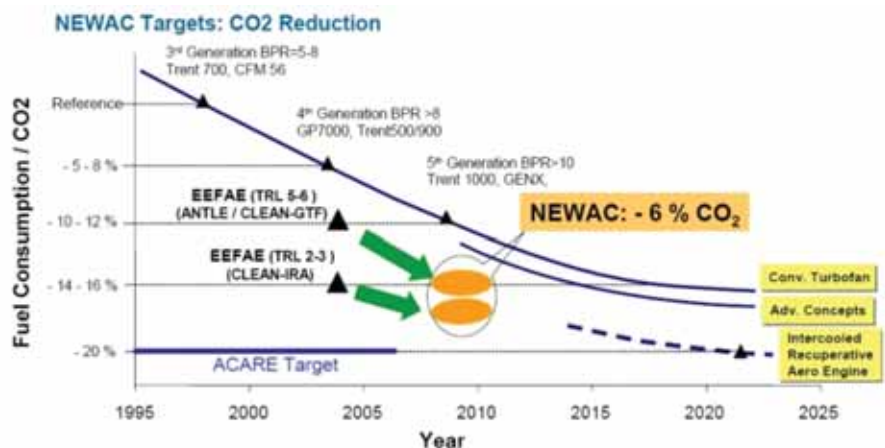

Figure 1: Fuel consumption / CO_2 reduction for different core concepts: Newac vs. state of the art
- 20% reduction in CO₂ emissions per passenger-kilometre whilst keeping specific weight of the engine constant (see Figure 1);